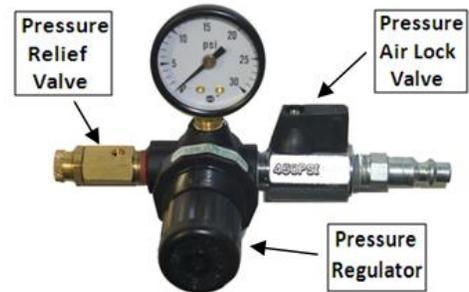

FIGURE 1
- Make sure that the Pressure Air Lock valve is in OPEN position (as shown in FIG. 1 above).
- Make sure that the Pressure Air Lock valve is in OPEN position (as shown in FIG. 1). Remove air supply hose to release all pressure from pot.
- Pull Pressure Regulator black knob outward (towards you) to unlock pressure regulator (see FIG. 1 above).